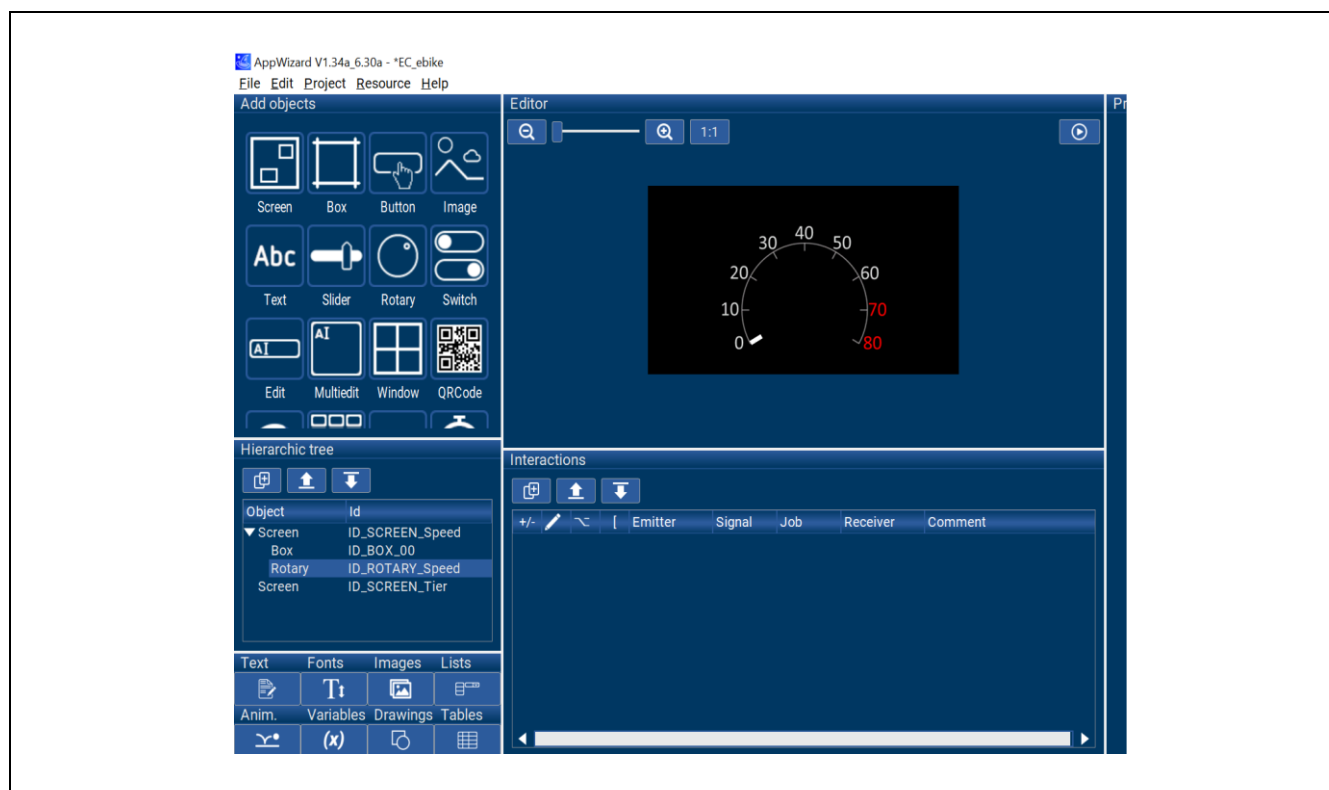

Figure 1-16 Using Rotary Object to Create Speedometer
- 6) Use the Rotary object to create the speedometer. Once the configuration is completed, it should appear as shown in Figure 1-16.